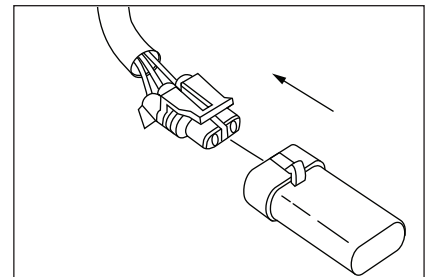

Figure 3
5. Install Protective Cover, 050790, on the Oil Pressure Sensor Harness Connector. (Figure 3)